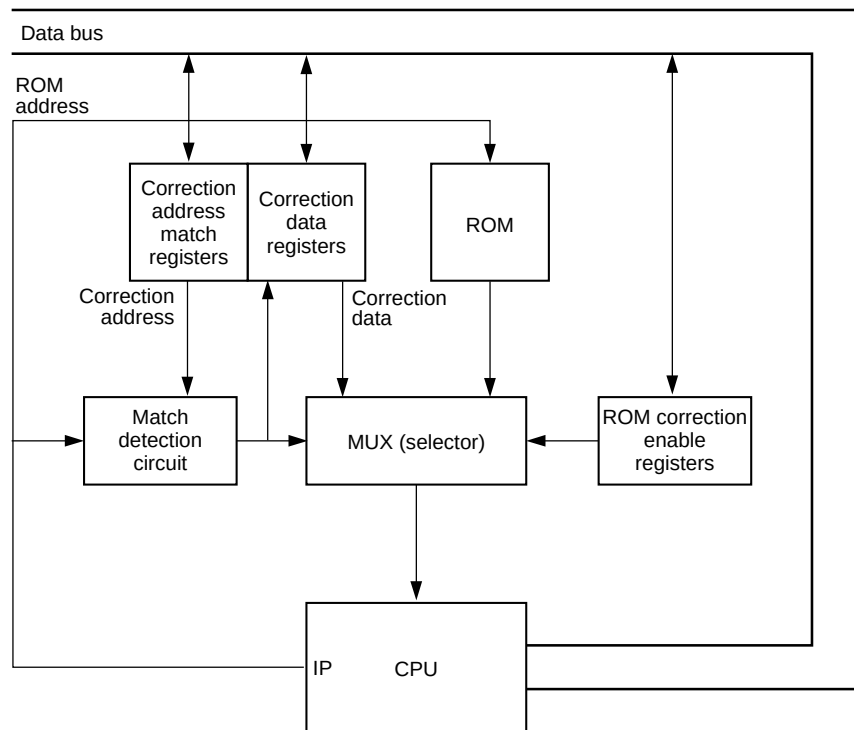

Figure 11-3 ROM Correction Block Diagram
Figure 11-3 is a block diagram of the ROM correction circuit. A match detection circuit constantly monitors the ROM address specified by the CPU instruction pointer (IP). When the value matches a correction address, the circuit replaces the data output from the ROM with the data in the appropriate correction data register. It then sends the corrected data to the CPU.